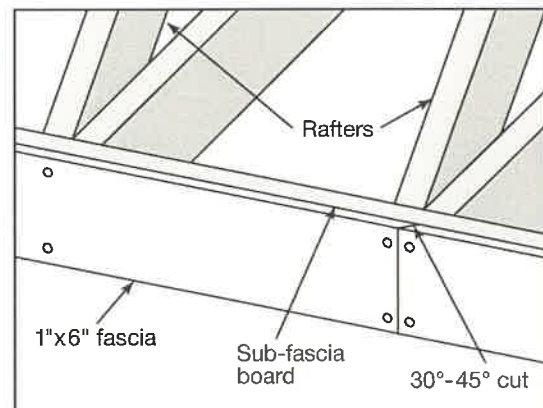

Fig. 6
- When using TruExterior Trim as fascia, a sub-fascia is required **(Fig. 6)**